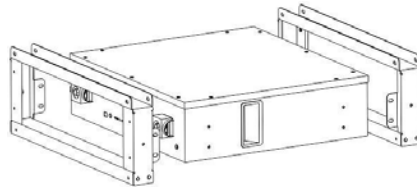
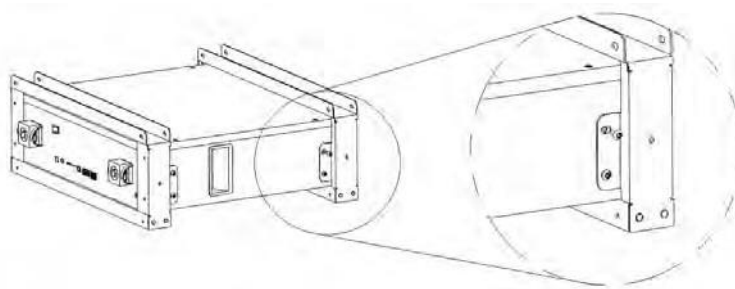

Figure 3-3
Figure 3-4
1. DL5.0C brackets The DL5.0C bracket is shown before installation as shown in Figure 3-3.
2. Place the DL5.0C and brackets as shown in the figure3-3, and insert the DL5.0C into the brackets. Each bracket is connected to the module by four screws, two screws on one side. As shown in Figure3-4.